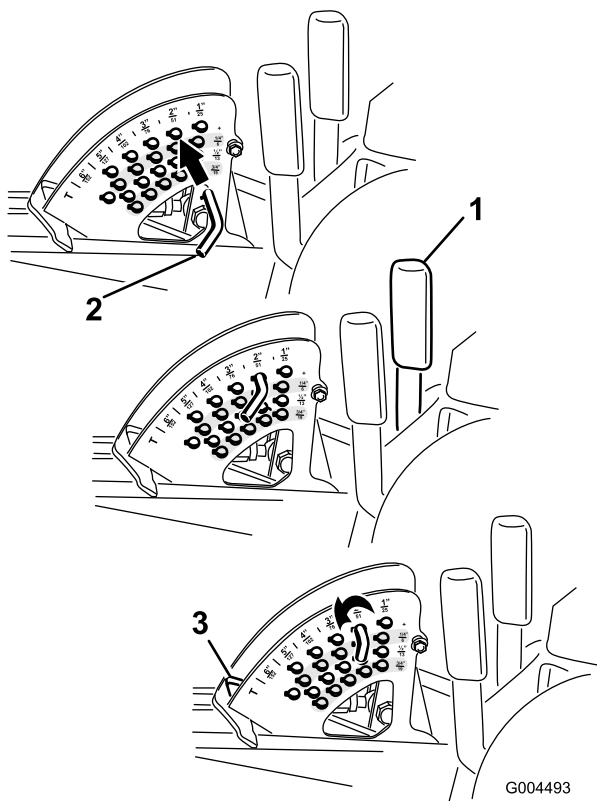

Figure 21
Note: To lock the mower deck in a raised position, raise the deck past the 6 inch (15 cm) position, remove the height of cut stop pin (refer to Adjusting the Height-of-Cut), and place the pin in the 6 inch (15 cm) height-of-cut position (Figure 21).
1. With the engine running, pull back on the deck lift lever until the mower deck is fully raised and **release the lever immediately** (Figure 21).
2. To adjust, rotate the stop pin until the roll pin in it lines up with the slots in the holes in the height-of-cut bracket and remove it (Figure 21).
3. Select a hole in the height-of-cut bracket corresponding to the height-of-cut desired, insert the pin, and rotate it down to lock it in place (Figure 21).
Note: There are four rows of hole positions (Figure 21). The top row gives you the height of cut listed above the pin. The second row down gives you the height listed plus 1/4 inch (6 mm). The third row down gives you the height listed plus 1/2 inch (12 mm). The bottom row gives you the height listed plus 3/4 inch (18 mm). For the 6 inch (15.8 cm) position there is only one hole, located in the second row. This does not add 1/4 inch (6 mm) to the 6 inch (15.8 cm) position.